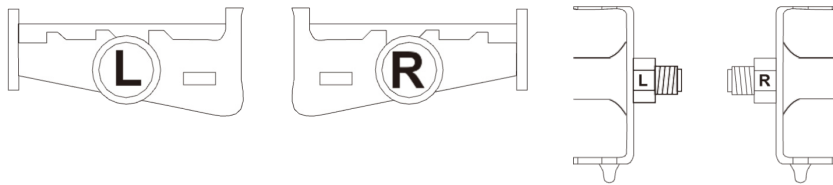

fig. 8
Step 4: Attaching Pedals (refer to fig. 8)